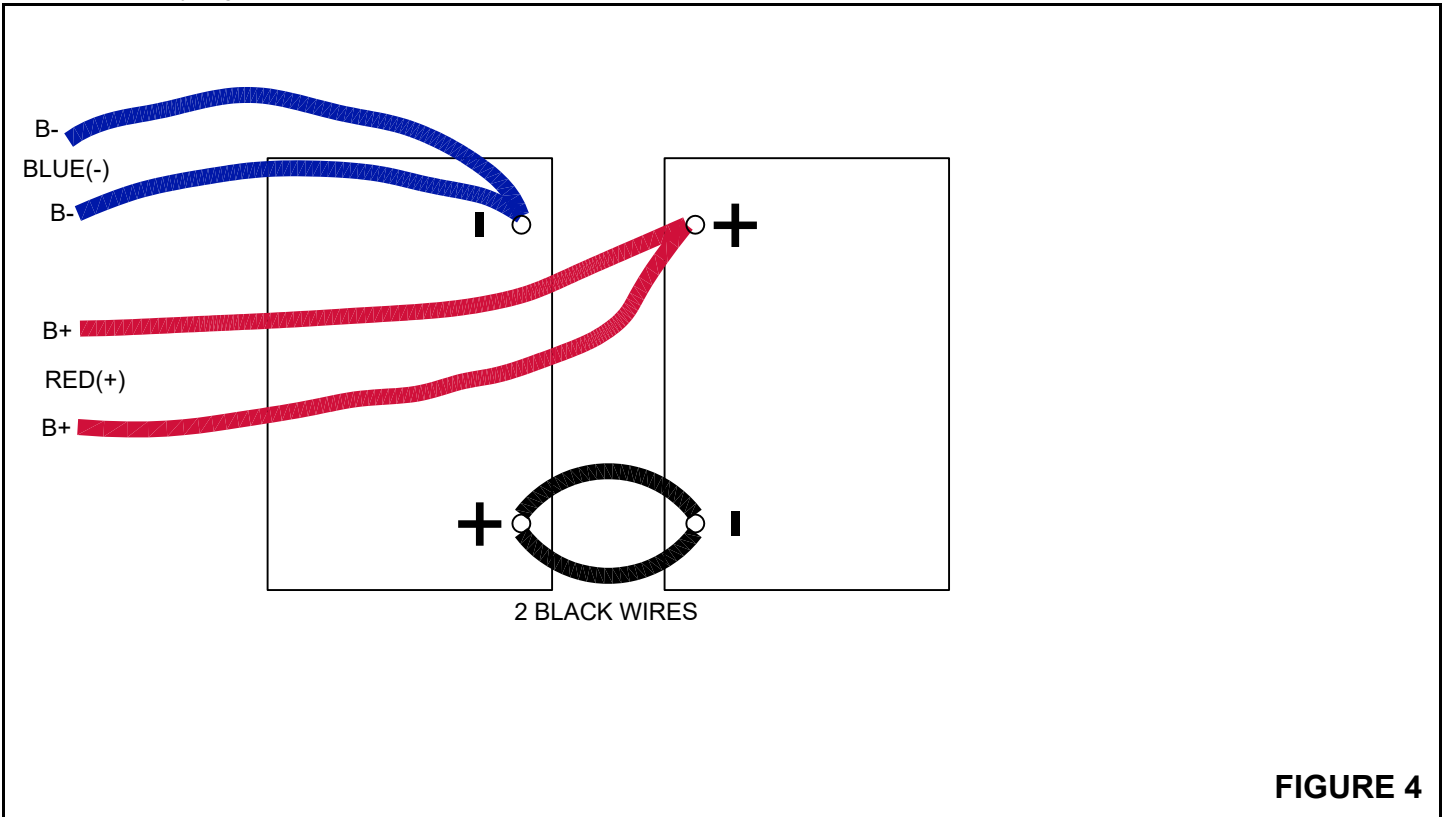

FIGURE 4
STEP 5: CONNECT BATTERIES (SEE FIGURE 4)
- b. Refer to figure 4. Connect the RED wire to the positive (+) post of the battery. Connect the BLUE wire to the negative (-) post of the battery. Tighten all bolts to a recommended torque of **78 lbf-in ± 4 lbf-in**.